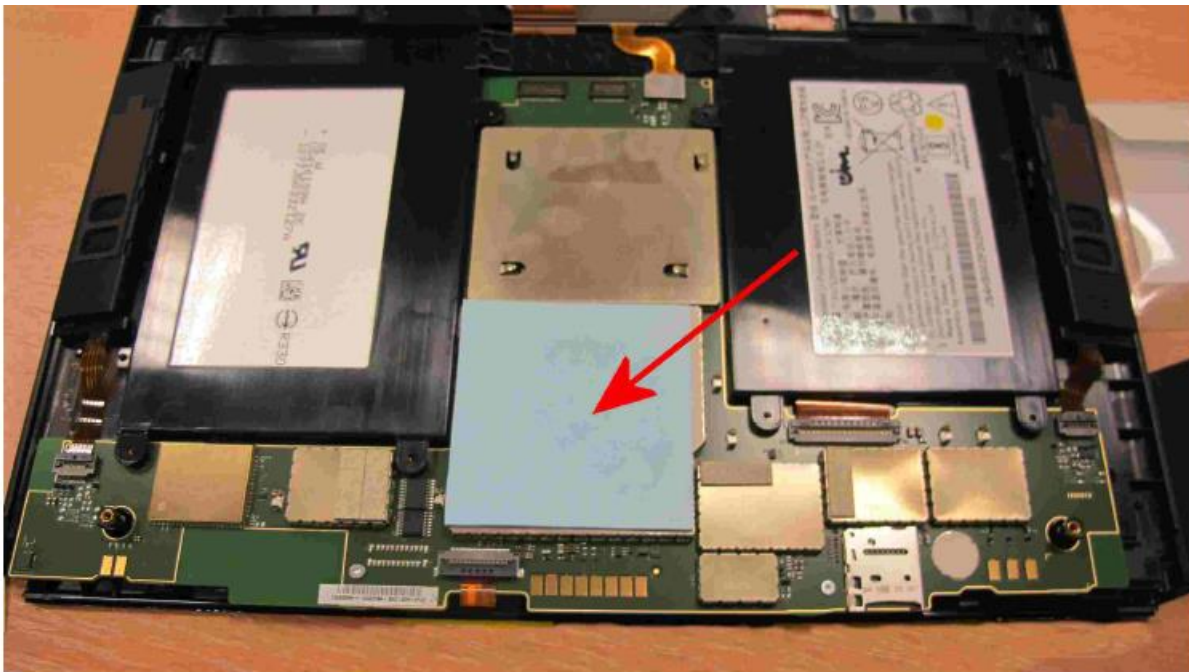

Figure 20
- If fitted remove the protective film from both sides of the Thermally Conductive Pad, position onto the Tablet heatsink, take care not to deform the Pad - figure 20.